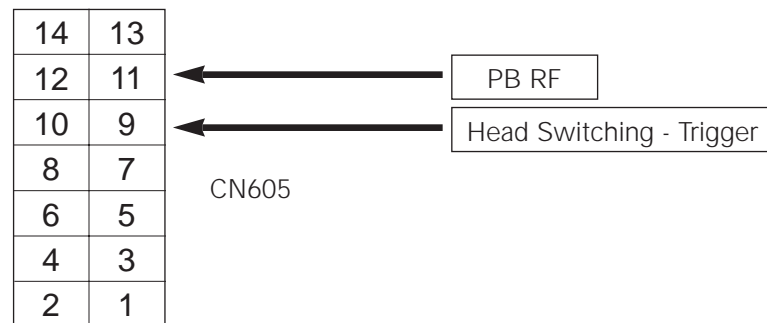

Fig. 1 Test point
- The location of test point (See Fig.1)